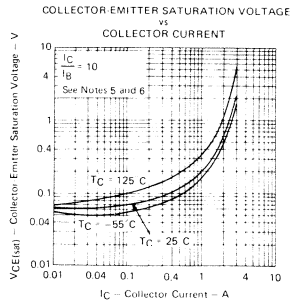

FIGURE 9
3. Derate linearly to 150°C case temperature at the rate of 0.64 W/°C or refer to Dissipation Derating Curve, Figure 9.